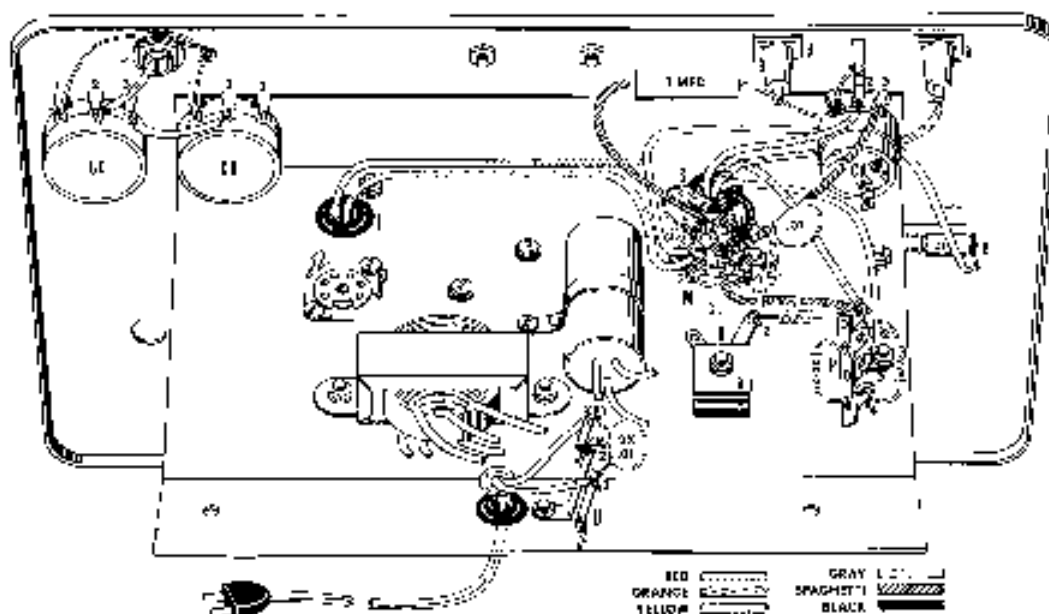
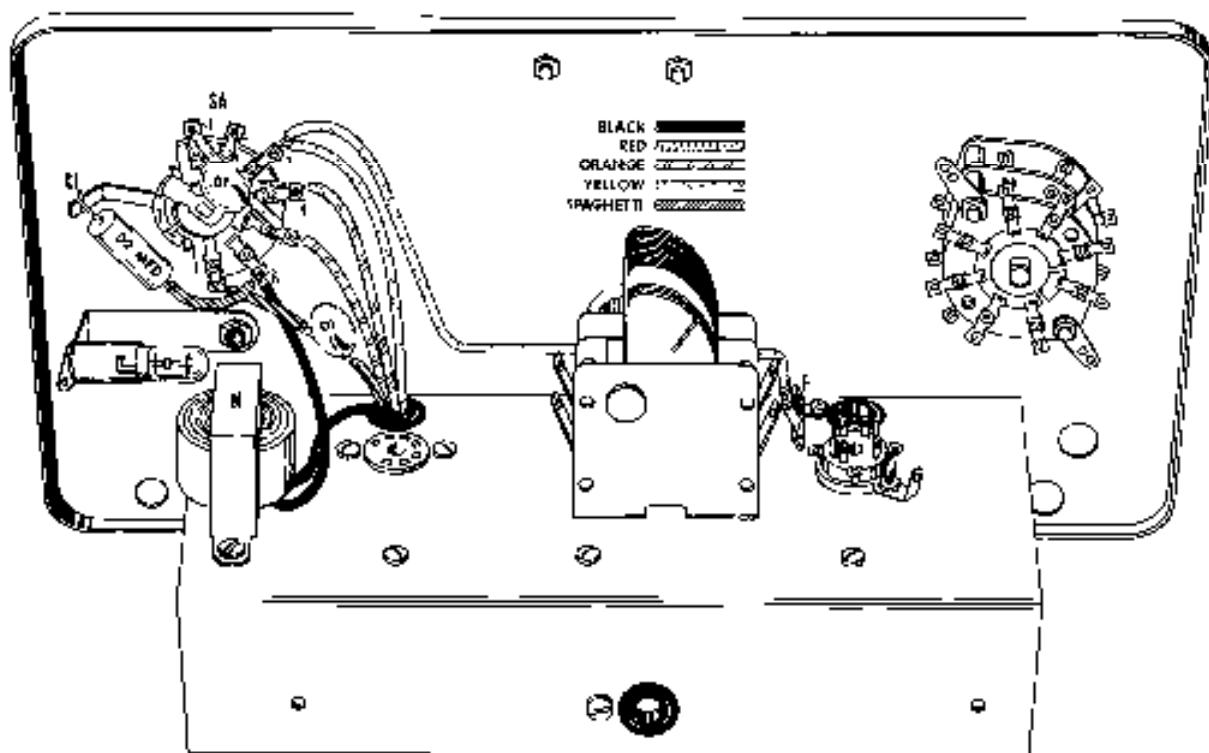

FIGURE 15
FIGURE 16
REFER TO FIGURE 15
- () 74. Pass one lead of a .01 mfd (10,000 pmf) ceramic disc capacitor (do not cut lead, use spaghetti) through grommet S from the top side of the chassis to M8 (Solder). Leave the other end free. See Figures 15 and 16.
- () 77. Pass the black lead shown in Figure 16 from the Audio Choke N down through grommet S and connect to M₁ (Don't Solder). See Figures 15 and 16
REFER TO FIGURE 16
- () 95. Insert line cord through $3/8"$ rubber grommet T. Tie a single overhand knot about 3" from the end of the cord for strain relief. See Figure 15